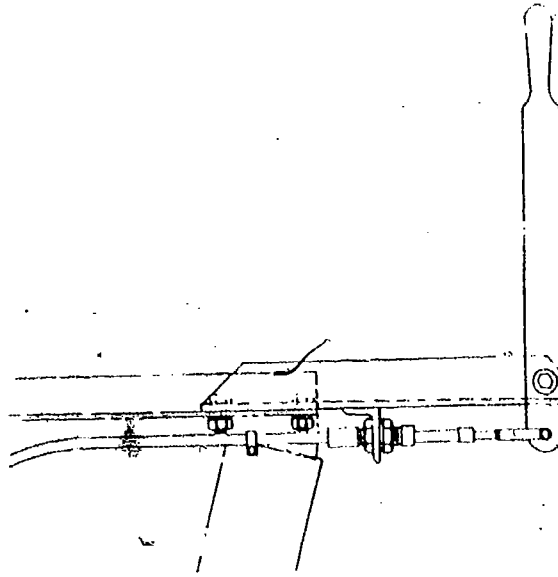

Fig 6-16. Apron feeder clutch control.
- (2) Apron feeder clutch control (fig 6-16). This control regulates the amount of feed going to the jaw crusher. The operator can keep the crushing chamber filled to capacity without overloading by engaging and disengaging the clutch, thus starting and stopping the apron feeder.